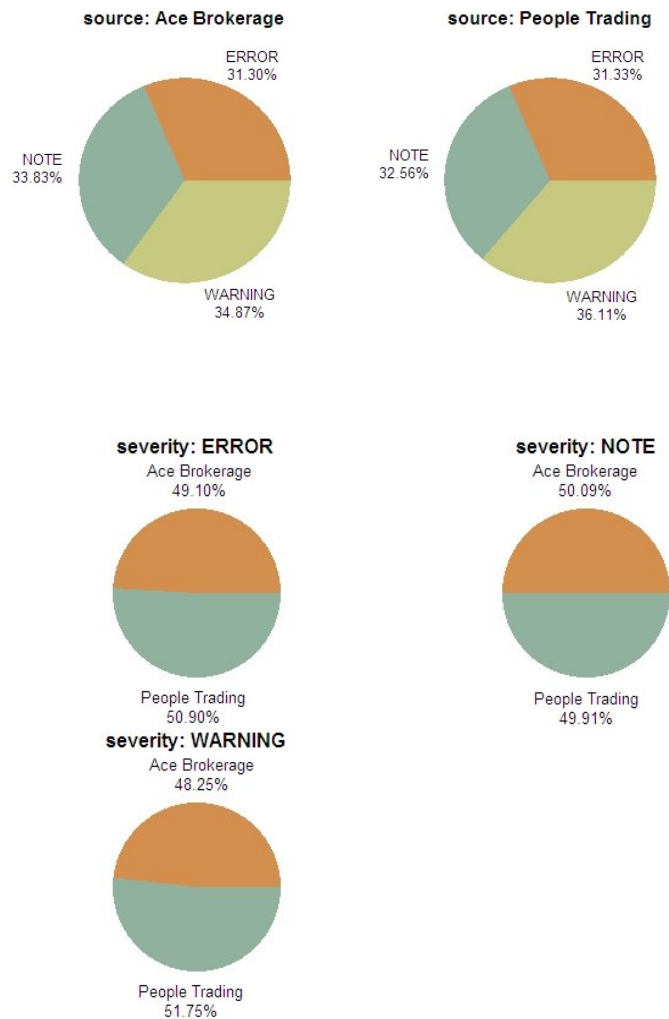

FIGURE 10
- FIGURE 10 show relative TAEvent frequency, first by severity broken out by source, and second by source broken out by severity.